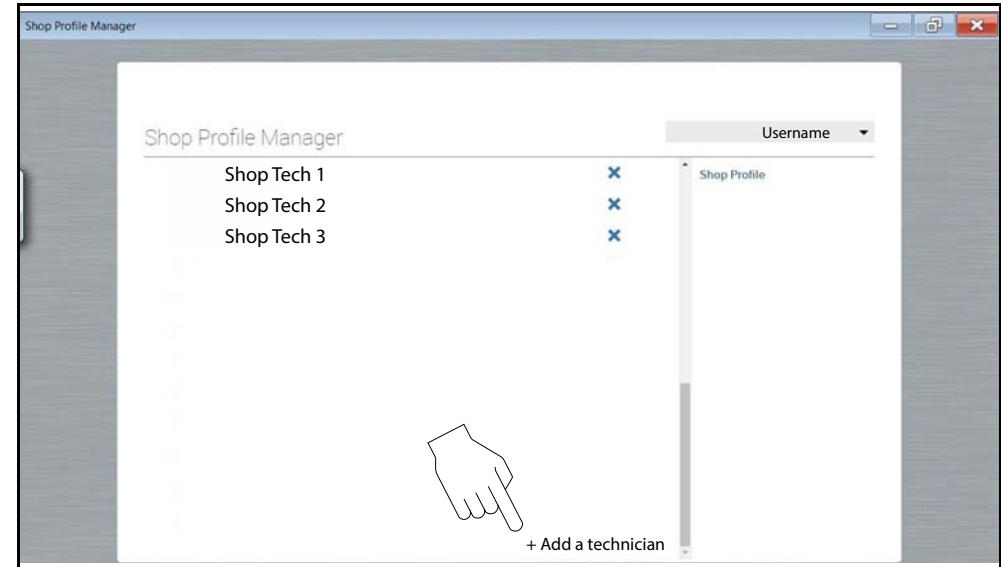

Figure 15-26
The Shop Profile Manager window will open (Figure 15-26),
3. Select **Add a technician** (Figure 15-26).